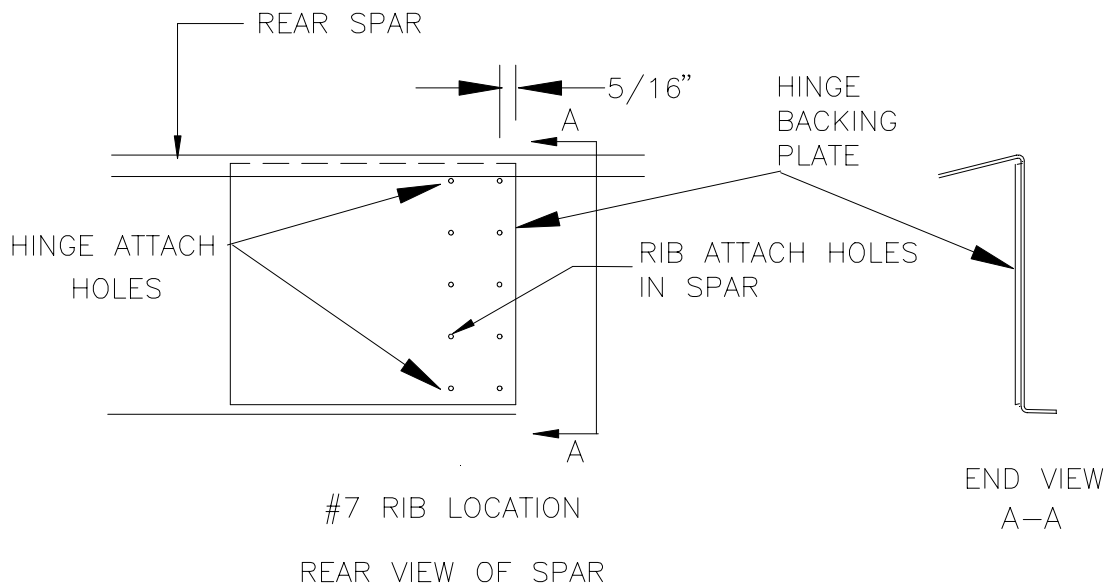

Figure 8.5.5
7) Drill five more #40 holes in Backing Plate and Spar, as in Figure 8.5.5.